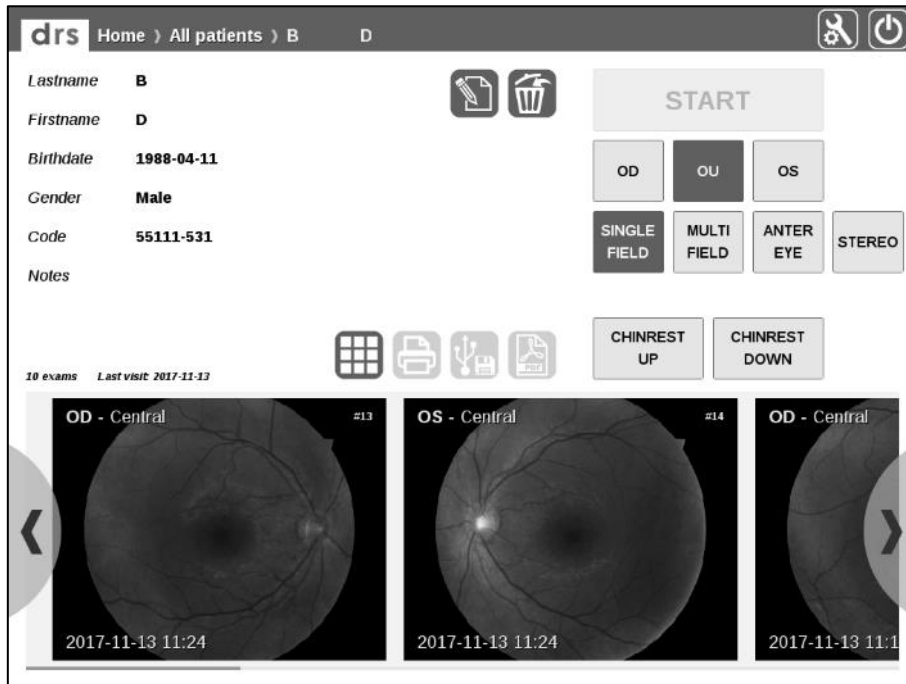

Figure 22 - Patient record screen
When the auto-focus process is not able to find an optimal focus, a warning message is shown to inform the operator about the possible occurrence of poor focusing conditions (see Figure 22).
- Patient record screen (same as Figure 22)